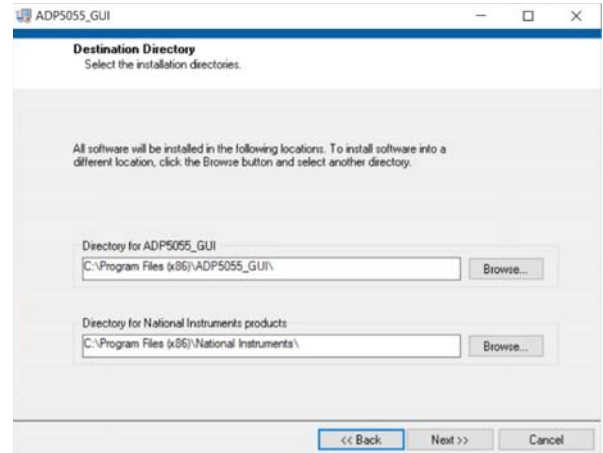

Figure 3. Choose Installation Destination Locations
3. Click **Next >>** to install the files to the default destination folders or click **Browse** to choose a different destination folder (see Figure 3).